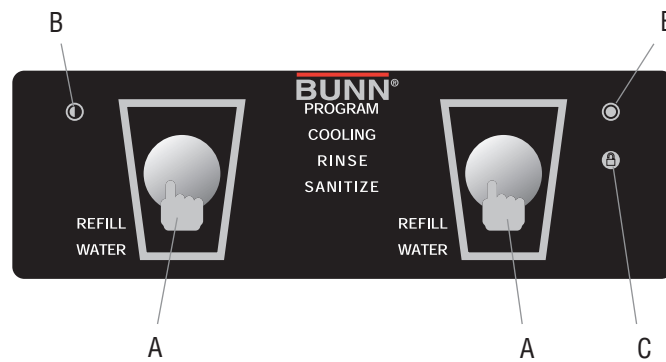
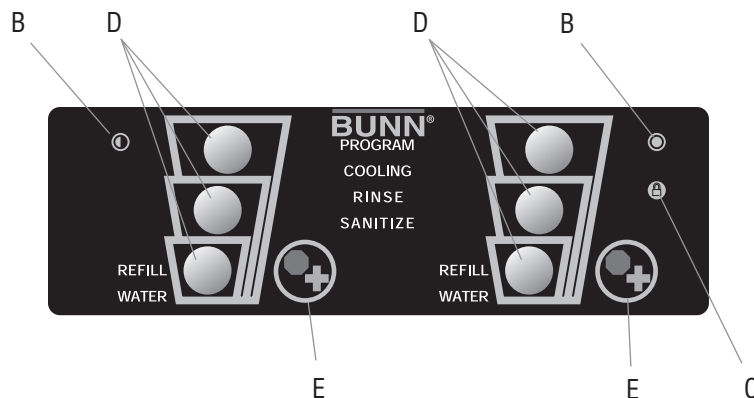

FIG 5 Press and Hold Models
FIG 6 Portion Control Models
Press and hold the “+/STOP Switch” Fig 5, until concentrate dispenses from the dispense nozzle.
Press and Hold Models (Refer to Fig 5)
Portion Control Models (Refer to Fig 6)
5. Press and release the appropriate "Product Dispense Switch" Fig 5. This will initiate a timed rinse cycle. Portion control users can press any of the 3 "Product Dispense Switches" Fig 6, to initiate a timed rinse cycle.
5. Press and hold the "Sanitize Switch" Fig 5, located on the front left portion of the base, for 5 seconds. The "SANITIZE" indicator on the front panel will begin to flash and the beeper will sound twice indicating that you have entered the sanitize mode.